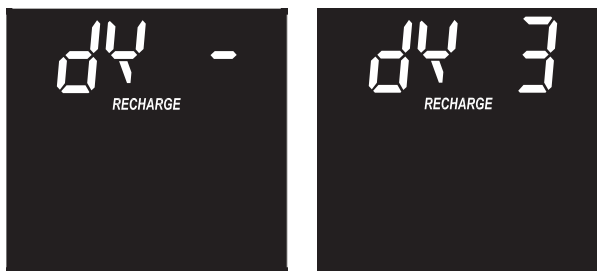

FIG. 27
2. Once in this display, press the SET button again and the display in Figure 27 is shown.